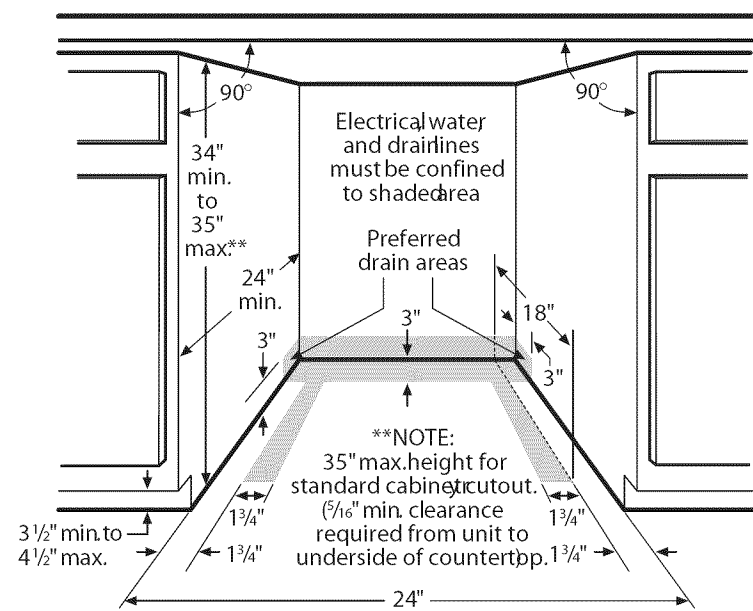

Figure 2
IMPORTANT: For proper operation and appearance of unit, cabinet opening should have dimensions as shown in Figure 2. If unit is to be placed in a corner, there must be at least a 2-inch side clearance to open door.
Electrical, water, and drain lines must be confined to shaded areas in Figure 2. Electric conductors, water, and drain could be damaged. Failure to follow these instructions could result in fire or electric shock.
1. Review dimensions in Figure 2 to locate dishwasher's drain, water, and electrical connections.
2. All utilities must be routed in shaded area in the Figure 2.
3. Cut access holes for the Electrical, Water and Drain hoses in the shaded areas as shown in Figure 2.